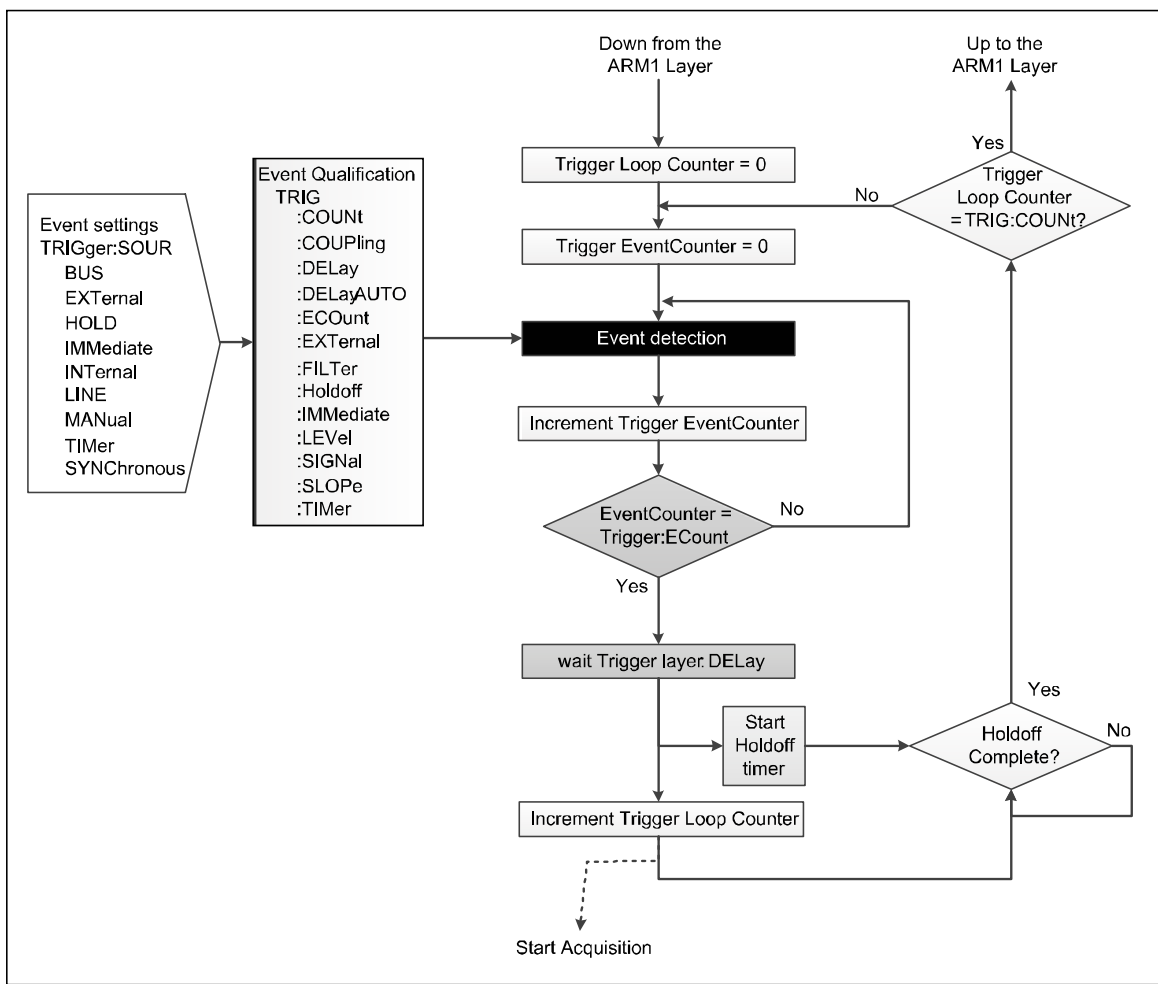

Figure 28. Trigger Layer without Special Events
For greater control of the triggering subsystem, specify an event or multiple events that need to occur in the other three layers, Arm2, Arm1, and Trigger. Figure 28 shows the settable aspects of the Trigger layer: Event settings (and qualifiers), Loop Counter, Event Counter, Delay, and Holdoff timer. Layers Arm2 and Arm1 are very similar to Figure 28 with the exception of Holdoff, which is available in the Trigger layer only.
*The Trigger layer, as well as the Arm2 and Arm1 layers, have Special Events not shown in Figure 28, available through the SCPI remote commands. The Special Events are described in Special Event Qualifiers.*